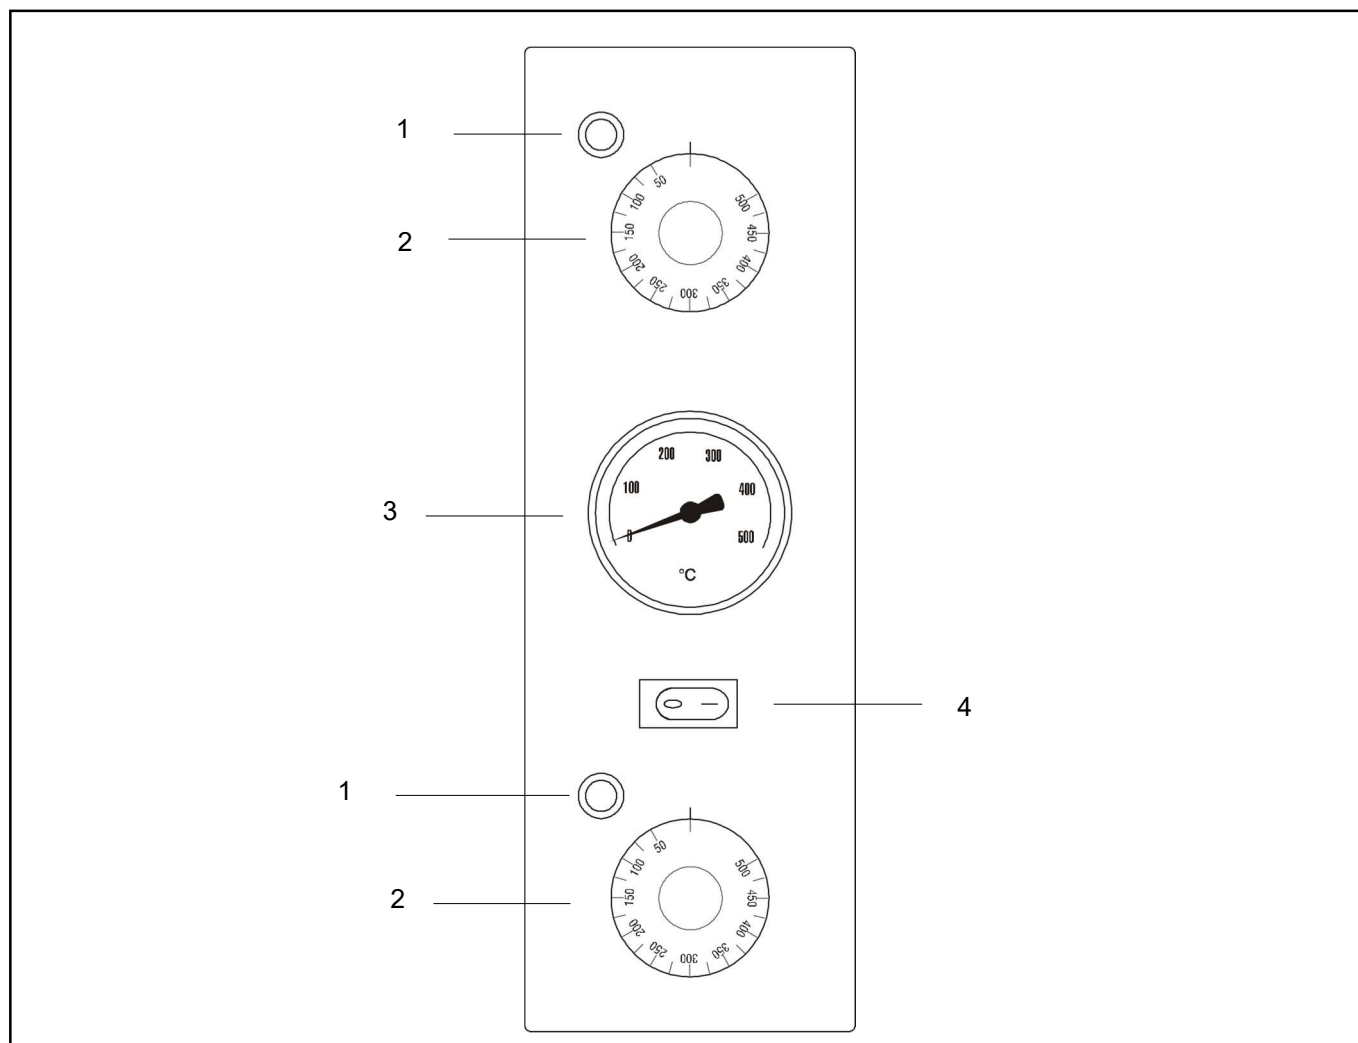

FIG.7 (Control panel)
The control panel is installed on the front side of the oven and changes according to the models as shown in **FIG. 7**.
LEGEND FIG.7
- 3) Enable the operation of the resistors setting the thermostats (**FIG. 7-Ref. 2**) on the temperature of **150 °C** indicated on the handle. The related green warning lights signaling the operation of the resistors in use switch on;
- 5) Disable the operation of the resistors, bringing the thermostats (**FIG. 7-Ref. 2**) to **pos. "0"**;
- 7) Close the door again and repeat the operation described at point **3**) bringing the thermostats (**FIG. 7-Ref. 2**) at the temperature of **400 °C** indicated on the knob;
- 9) Disable the operation of the resistors bringing the thermostats (**FIG. 7-Ref. 2**) to **pos. "0"**;
- 3) Enable the operation of the resistors bringing the thermostats (**FIG. 7-Ref. 2**) to the wished temperature indicated on the handle. The related warning lights signaling the operation of the resistors in use will switch on;
- 4) Once the oven has reached the wished temperature (see point **9**) of this paragraph), visible on the thermometer (**FIG. 7-Ref. 4**), it is possible to insert the pizza in the oven for the backing;
- 6) To light the inside part of the backing chamber, press the oven lamp switch (**FIG. 7-Ref. 5**);
- 1) Turn off the oven, bringing the thermostats (**FIG. 7-Ref. 2**) and the resistor (**FIG. 7-Ref. 3**) switches to pos."0";